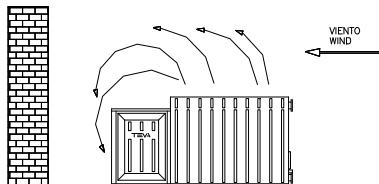
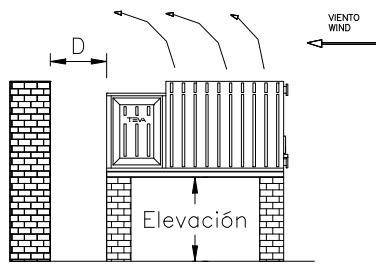

Fig. 3
Fig. 5
*The first requirement is not to situate the tower near any walls or other obstacles that are higher than the tower itself (see figures 3 to 5). In the former case, the prevailing wind will push the air against the wall, causing part of it to be recirculated. In the latter case, the depression created by the wind speed at the bottom of the tower will produce the same phenomenon. Where such proximity is unavoidable, this problem can be overcome by raising the tower to the height of the nearby wall (see figure 5).*